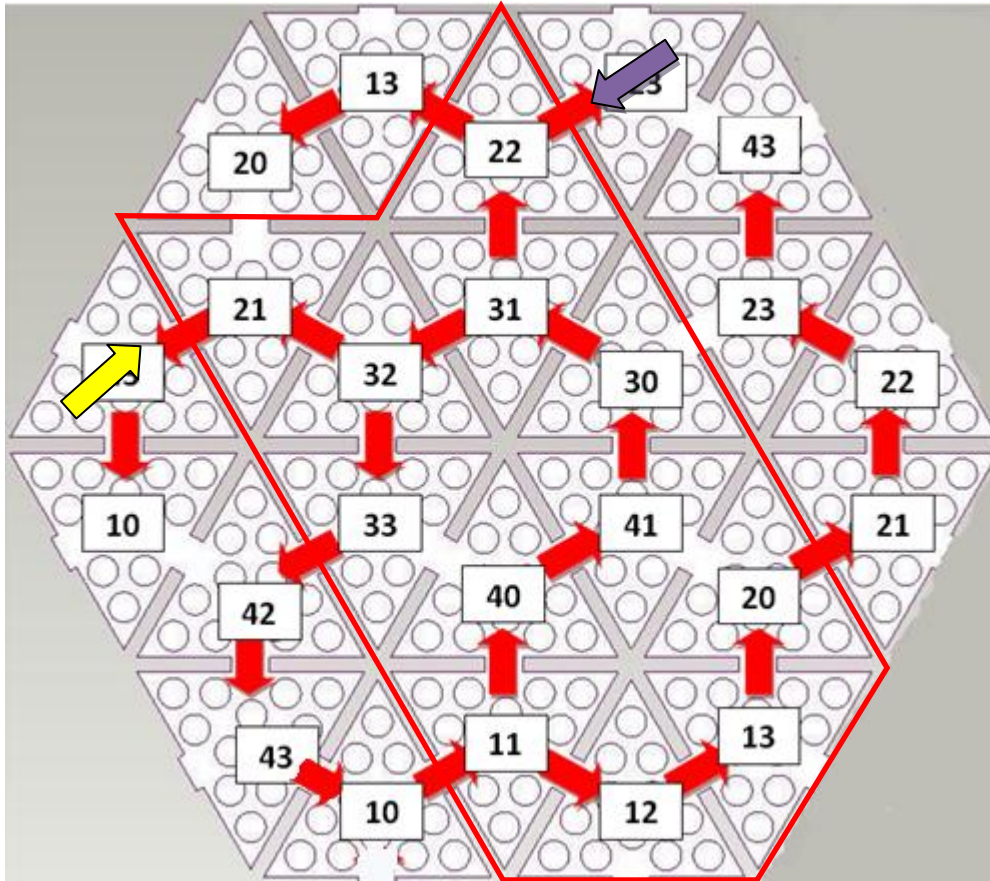

Figure 5 HEXAGON . First patch The yellow arrow is the place where to sold the cables in the right foot.
- Figure 5 and Figure 6). The cable used is the IITCODE 16 (Teflon insulated cable, 8 poles, AWG32 from Industrifil).